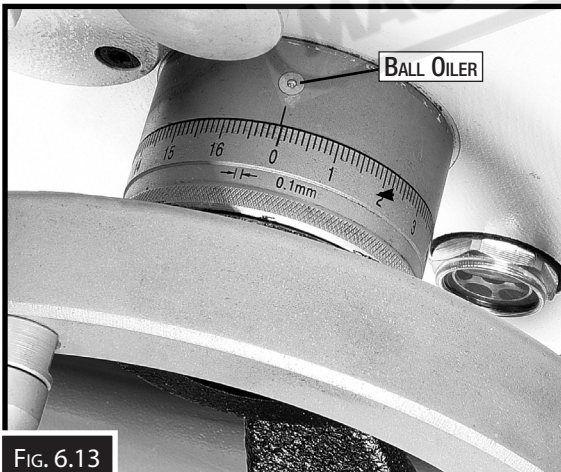

FIG. 6.13
- Carriage handwheel (Fig.6.13)